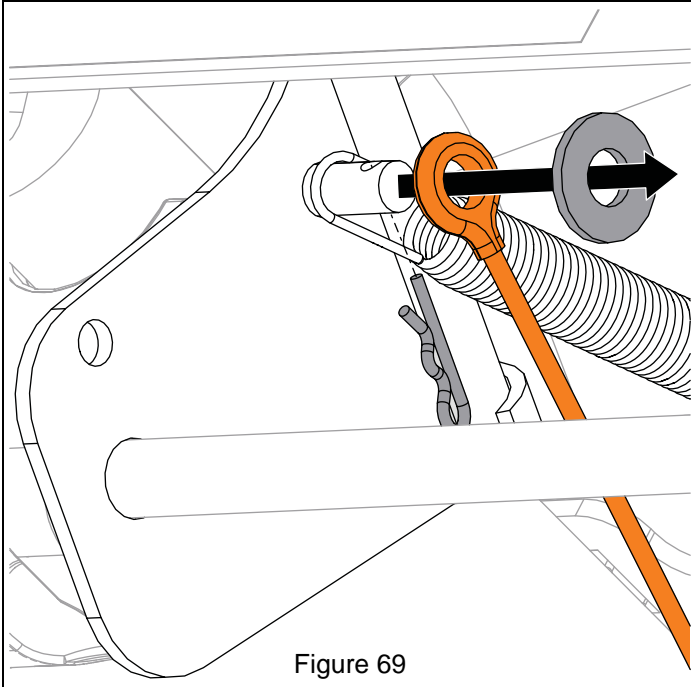

Figure 69
4. Under dash panel, remove hardware retaining upper traction clutch cable to clutch lever and remove cable. See Figure 69.
7. Reinstall upper traction clutch cable to traction clutch lever. Secure with one flat steel washer and hairpin. See Figure 69.